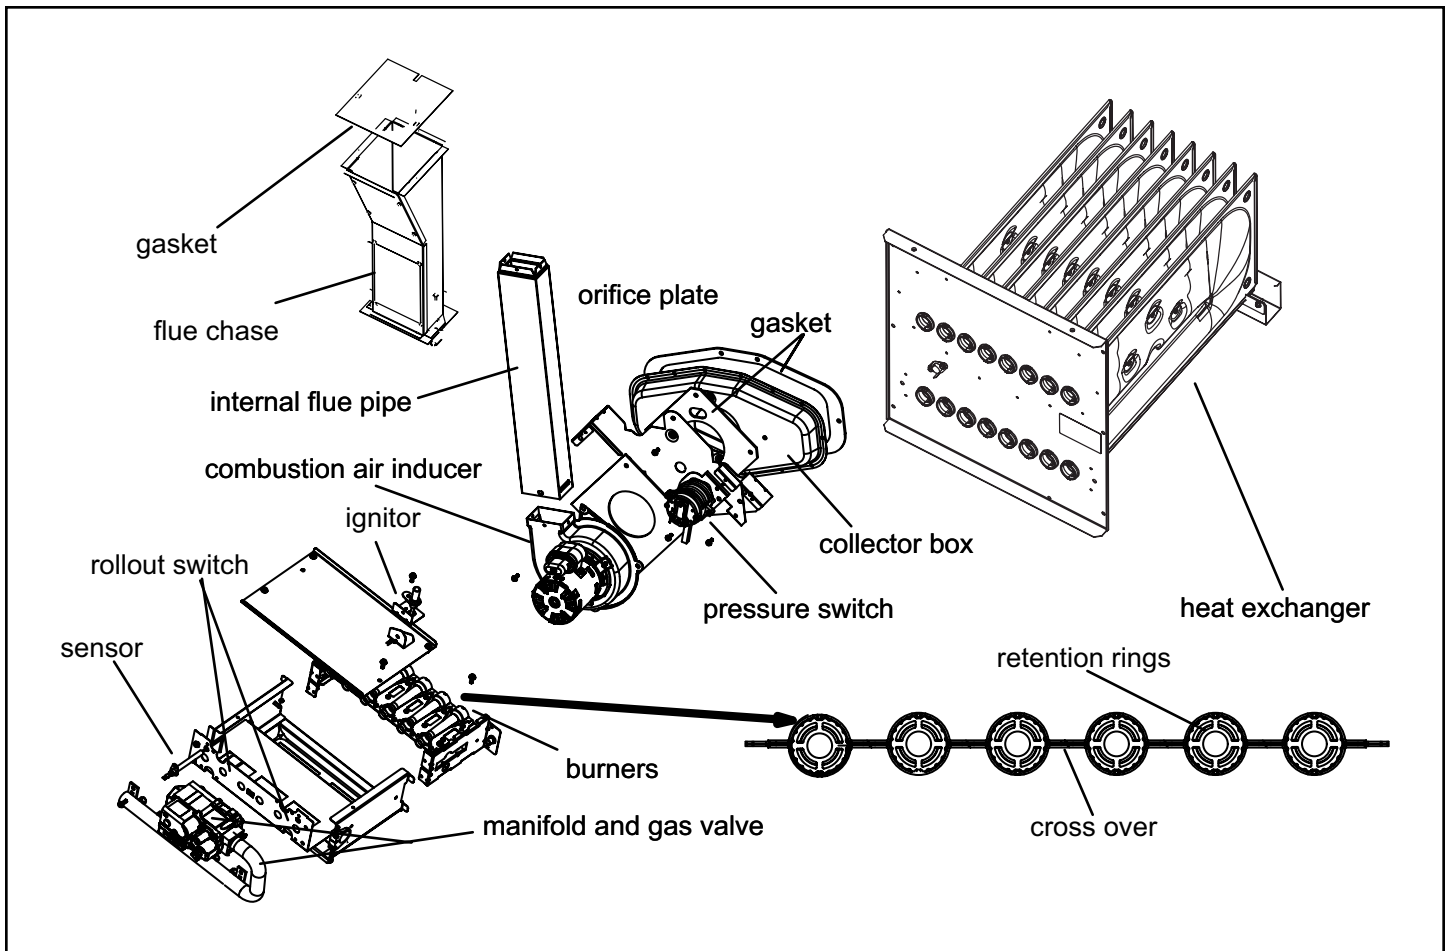

Figure 20. Burner, Combustion Air Inducer Assembly & Heat Exchanger Removal
10. To clean burners, run a vacuum cleaner with a soft brush attachment over the face of burners. Visually inspect inside the burners and crossovers for any blockage caused by foreign matter. Remove any blockage. Figure 20 shows burner detail.